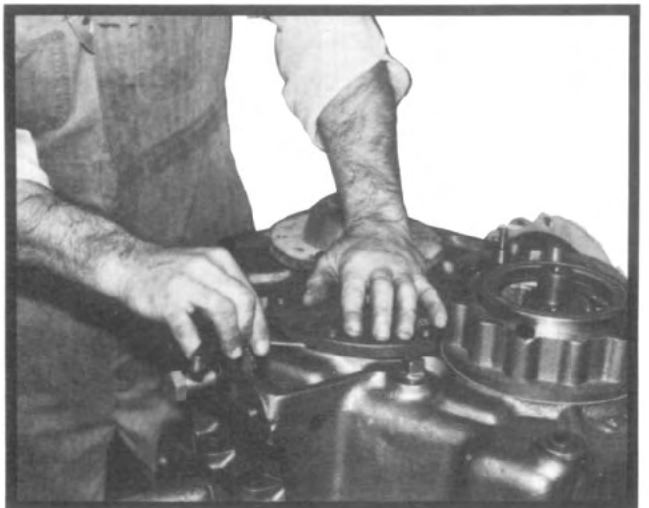

Fig. 20
10. Tap intermediate shaft down to seat the shaft into the bearings and related parts. Place intermediate shaft rear cap into the rear housing bore. Measure with feeler gauges the amount of clearance (see fig. 20). Add .005" to this dimension and add the necessary shims to match that calculated dimension. Assemble rear cap to housing and secure with six bolts. Be sure to align the oil passages. Tighten bolts to correct torque.